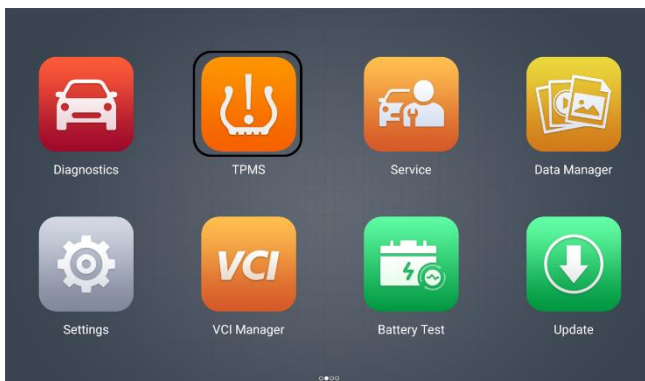

Figure 5-2 MaxiCOM Home Menu
- Tap the **TPMS** application button from the MaxiCOM Home Menu (Figure 5-2). The Vehicle Menu displays.
1. Tap the **TPMS** application button from the MaxiCOM Home Menu (Figure 5-2). The Vehicle Menu displays.